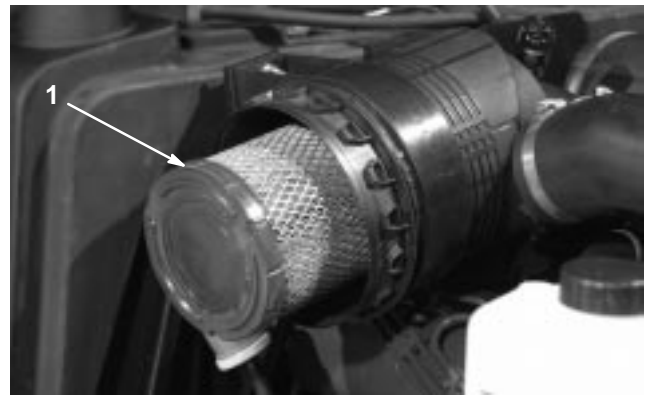
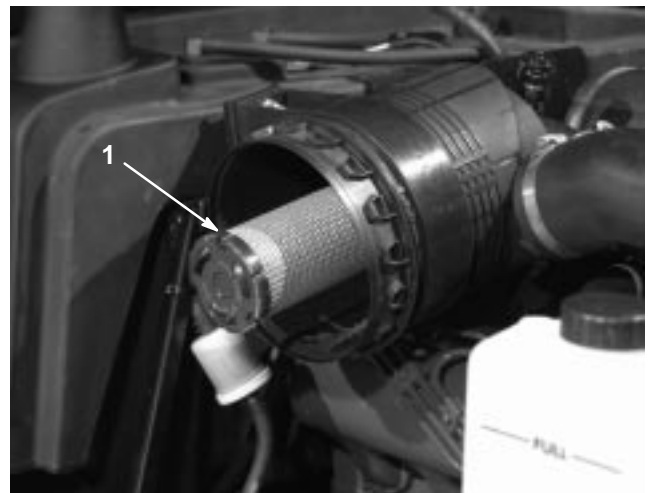

Figure 46
Figure 47
2. Gently slide the primary filter (Fig. 46) out of the air cleaner body to reduce the amount of dust dislodged. Avoid knocking the filter against the air cleaner body. **Do not** remove the safety filter (Fig. 47).
Important Never attempt to clean the safety filter (Fig. 47). Replace the safety filter with a new one after every three primary filter services.